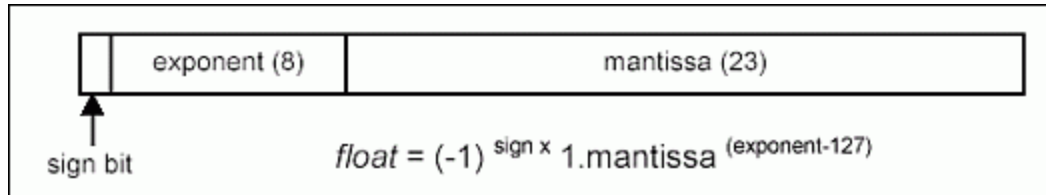
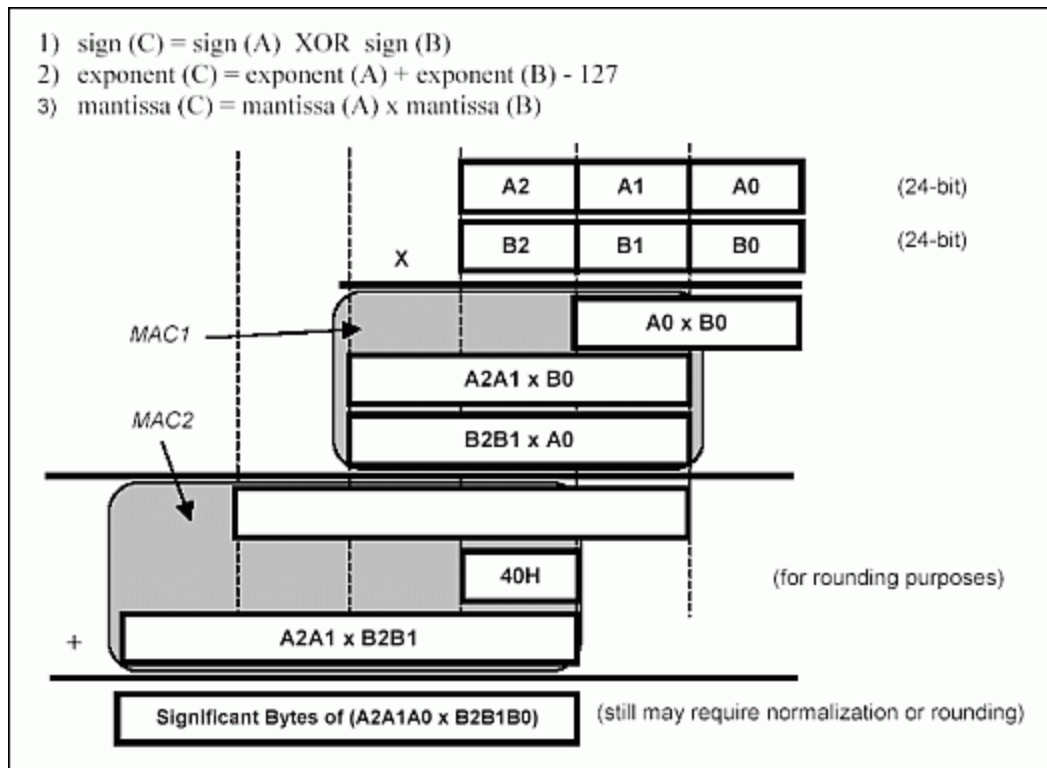

Figure 8. IEEE 754 single precision floating point format.
Figure 9. Floating point multiply ($A \times B = C$).
To demonstrate the capability of the DS80C390/DS80C400 math-accelerator hardware, let us consider the task of multiplying two floating-point numbers. **Figure 8** below shows the IEEE 754 single-precision floating point number format and Table 3 contains some example numbers. Multiplication of binary floating point numbers involves addition of exponents and multiplication of signed 24-bit numbers. **Figure 9** shows the basic steps that must be performed to accomplish the task. By far, the most time consuming of the three steps, for 8051 hardware, is the 24-bit x 24-bit multiplication. While the DS80C390/DS80C400 arithmetic accelerator does not support direct multiplication of two 24-bit numbers, utilizing its 16-bit x 16-bit multiply and accumulate function provides a distinct performance advantage over traditional 8051 methods. An outline for multiplication of the (2) normalized 24-bit numbers using the accelerator is shown in Figure 9, Step 3. The partial product multiply-accumulate (MAC) operations have been highlighted.